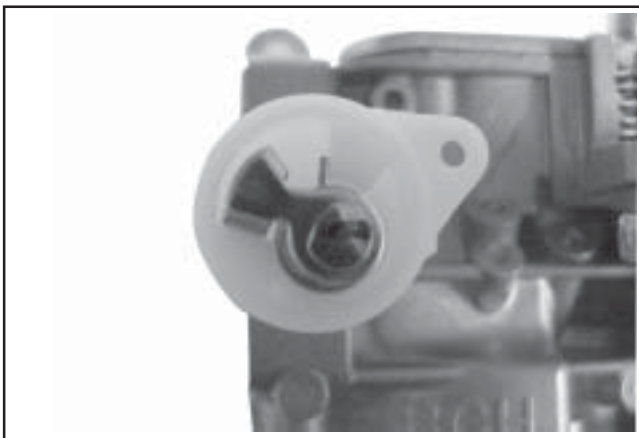

Figure 5-35. Choke Details.
4. Note the position of the spring legs and the choke plate for correct reassembly later. See Figure 5-35. Remove the two screws attaching the choke plate to the choke shaft. Pull the shaft out of the carburetor body and discard the removed parts.
10. Slide the choke shaft and spring, into the carburetor. Pivot (preload) the shaft and set the inner leg of the spring, against the formed stop within the choke lever as originally assembled. See Figure 5-35. The opposing leg of the spring must still be between the formed "stops" of the choke shaft.